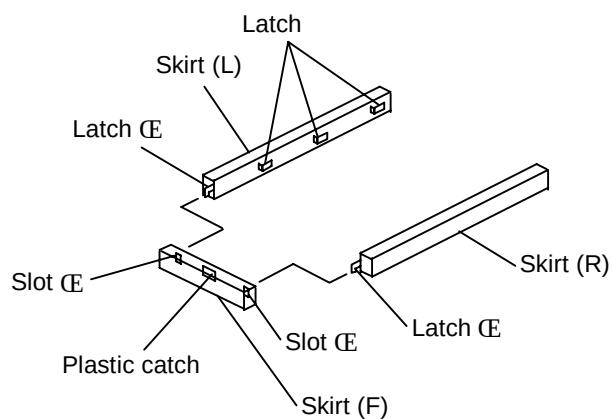

Figure 3.2.6 Assembly of Skirts
- ④ Insert latches ❶ of skirts (R) and (L) into the slots ❶ of skirt (F). (See Figure 3.2.6.)